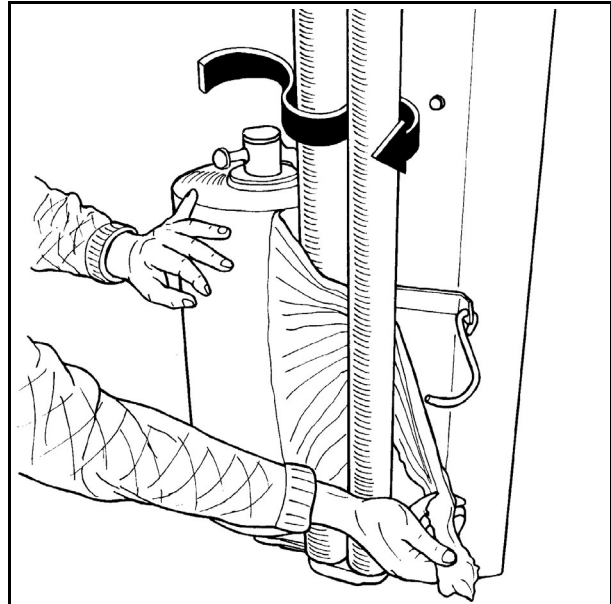

Fig. 4-2
- 4.3 Pull the film between the rollers on the prestretcher in the direction of the arrow. (See fig. 4-2). (See also the sign on the wrapping arm).